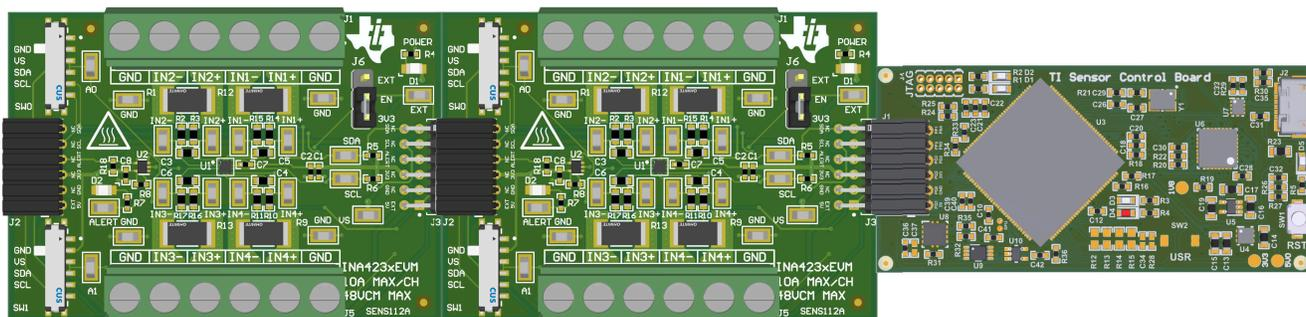

Figure 2-2. Multiple EVMs Connected to SCB Controller
- a. Refer to Figure 2-2 when connecting multiple EVMs of the same type together.
If using multiple EVMs (GUI support coming soon), then connect as shown in Figure 2-2. Make sure to use a different address for each device. The GUI only supports one EVM and device type at a time; up to four EVMs total.